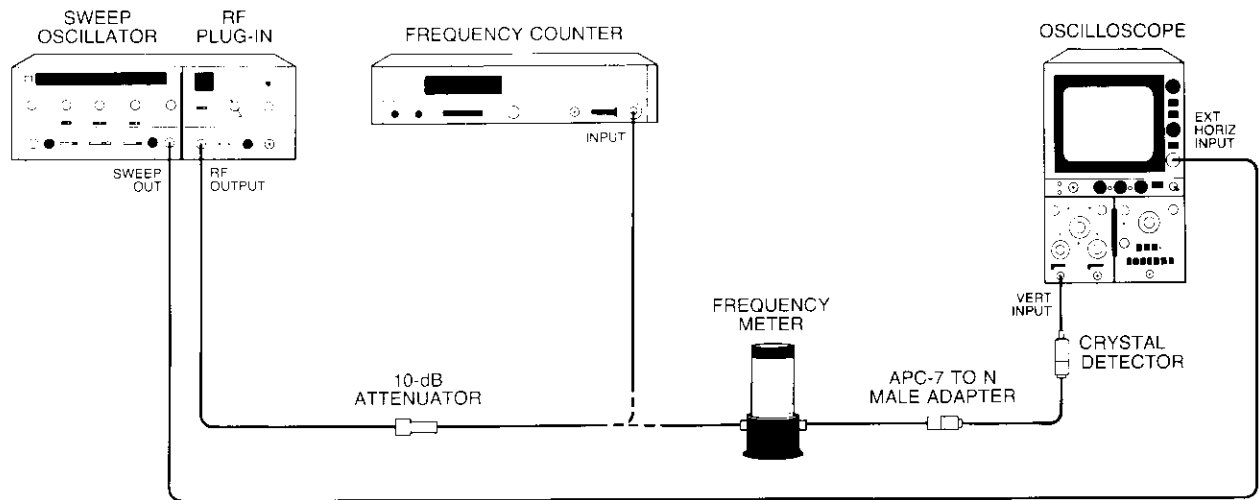

Figure 5-18. Band Switch Overlap Adjustment Test Setup
- b. Connect equipment as shown in Figure 5-18 with frequency counter connected to 86290A RF OUTPUT. Press 8620C LINE switch ON. Press CW and CW VERNIER pushbuttons. Adjust CW MARKER and CW VERNIER controls for frequency counter indication of 6.200 GHz.